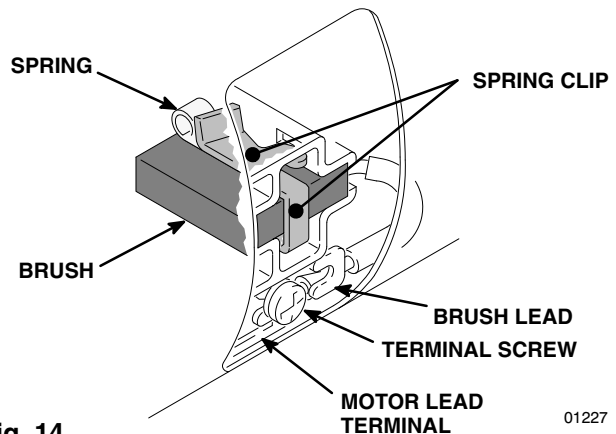

Fig. 14
7. Slide the terminal under the terminal screw washer and tighten the screw. Be sure the motor lead is still connected at the screw. See Fig. 14.
4. Loosen the brush lead terminal screw. Pull the brush lead away, leaving the motor lead terminal in place. Remove the brush and spring. See Fig. 14.